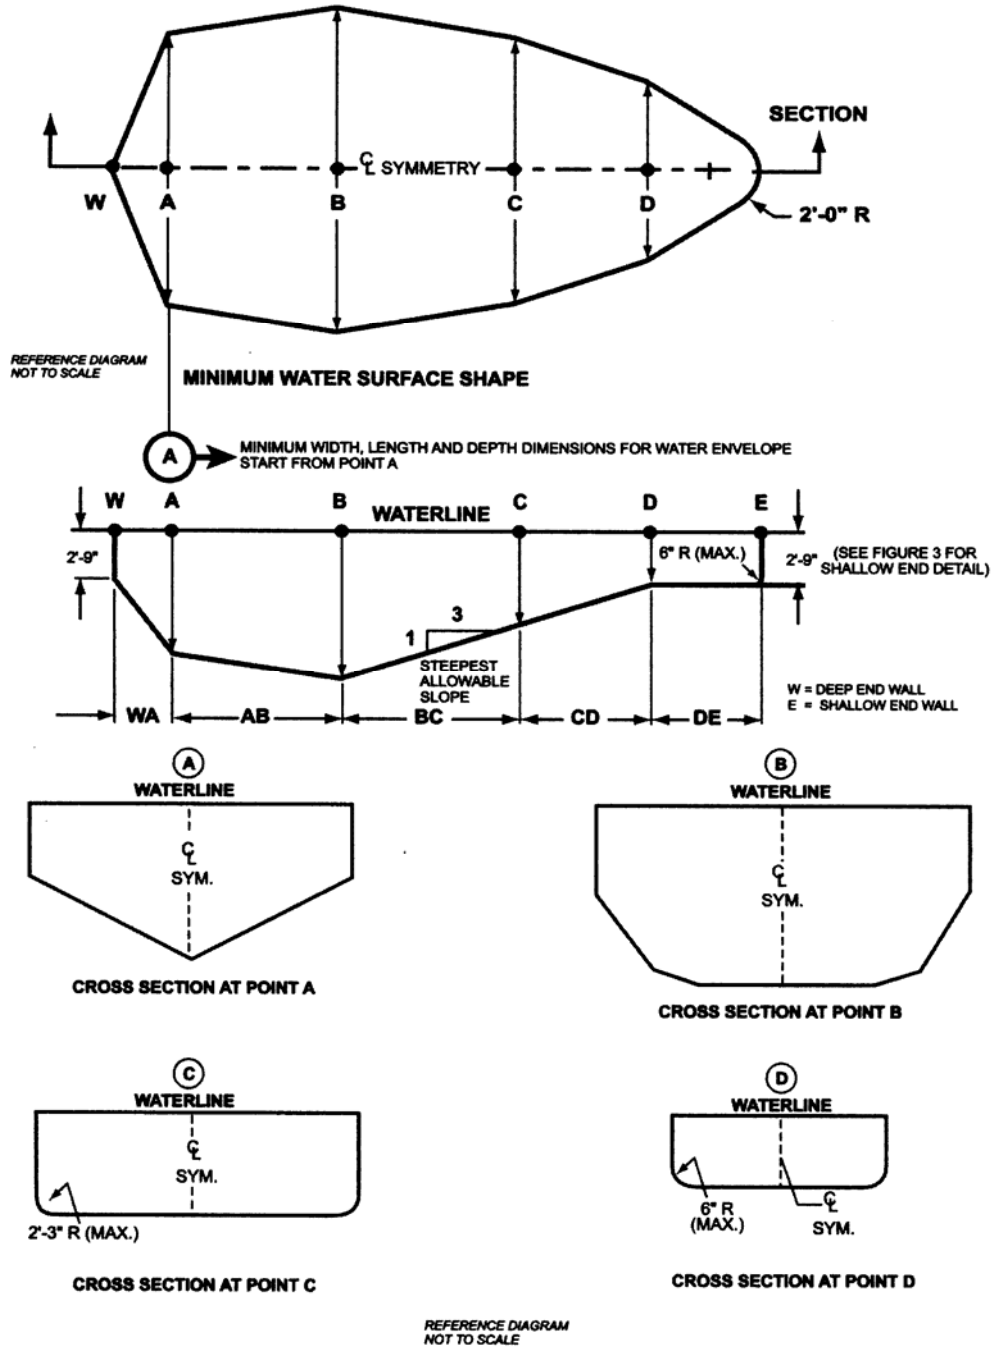

Figure 3- Minimum water envelope
5.3.3 The walls of Type I pool, when defining the minimum diving water envelope, shall be plumb or outside of Type 1 water geometry. (See figure 3, table 1.)
2. Figure 3 drawings are not to scale. (For pool types, see Glossary.)